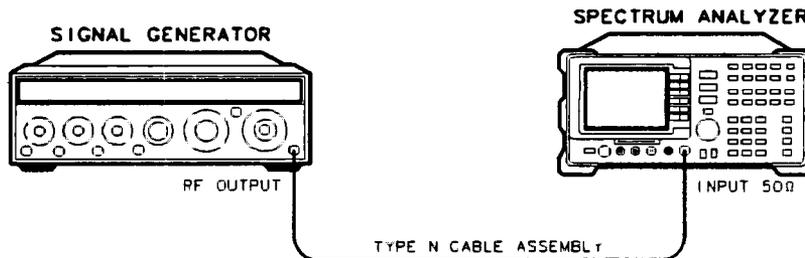

Figure 4-3. Noise Sidebands Test Setup
2. Connect the equipment as shown in Figure 4-3.